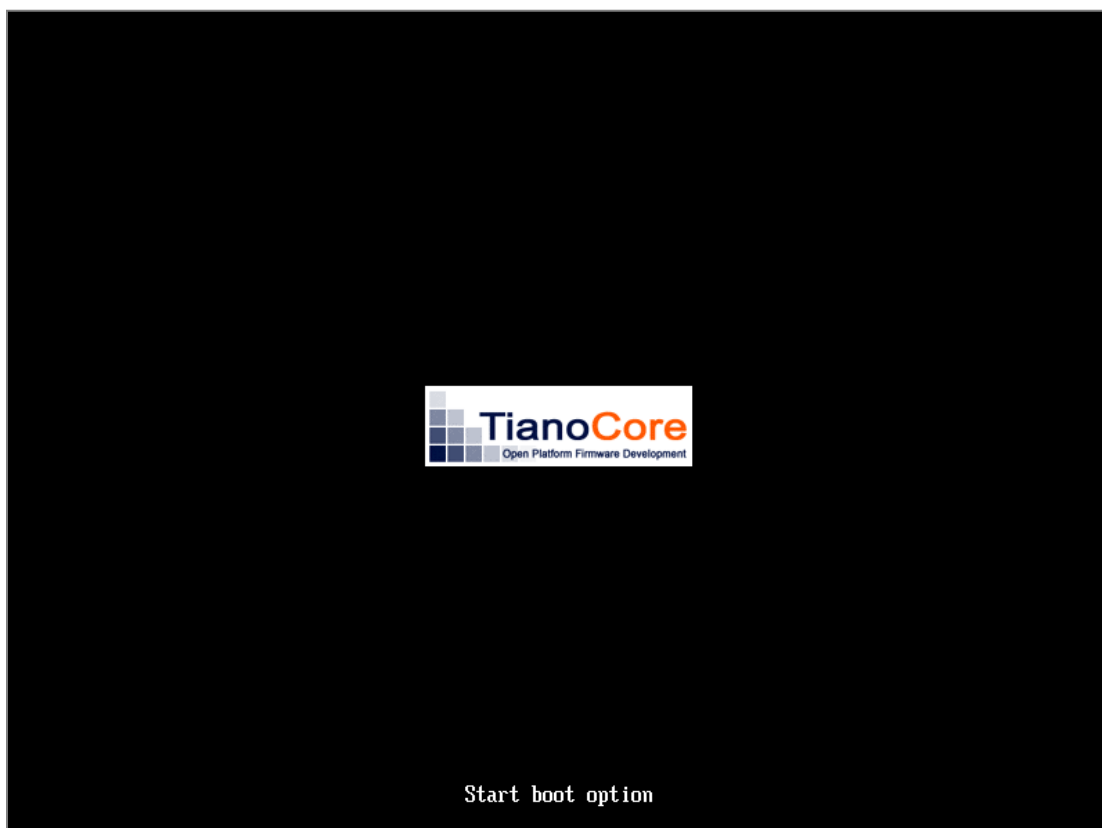

Figure 3-26. *Tianocore.org splash screen.*
8. Power up the target PC to verify that the new BIOS is installed correctly. The TianoCore\* logo should be displayed (see Figure 3-26), and the system should automatically boot to the UEFI shell (see Figure 3-27).